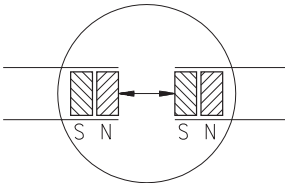

Fig. 19: Determination of the pole position.
- Check polarity before joining the two parts. Both ends must attract each other (if necessary, use compass needle). In case both ends have the same polarity, shorten one end by a half pole division (fig. 19).